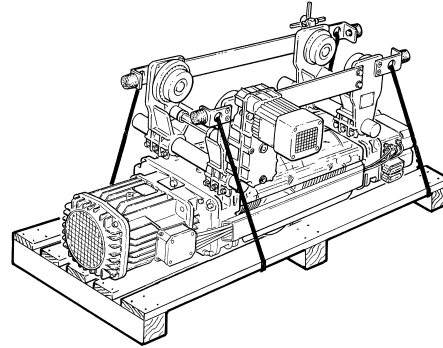

Figure 3-11 Trolley Secured to Pallet for Installation
- 3) Install any additional devices, if any (power supply cords or pendants, for instance – see Section 3.5) onto the trolley hoist. If the trolley hoist is not secured to a pallet, place and secure it to one making sure that the trolley hoist is completely stable (see Figure 3-11).